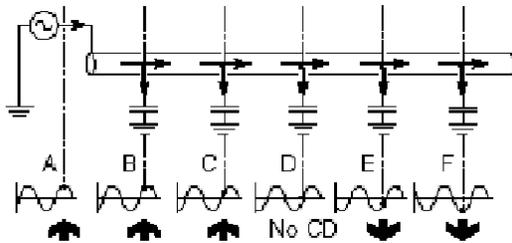

Figure 10.2: CD reset
Figure 10.2 illustrates a buried line with significant capacitance to ground. It illustrates the gradual phase-shift that occurs along the line. The diagram shows a reference point on each waveform. At first, the reference point occurs right on the Peak of a positive half cycle (A). It gradually moves towards the zero crossing point (D) and ends up on the Peak of a negative half cycle (F). The direction has shifted from forwards to backwards. At the intermediate point (D) the current flow cannot be determined. At this point the CD arrows on the RD5100H2O+ locator will flash on and off. In the example shown in the illustration, by returning to (C) which is the last point at which a CD reading was achieved, and performing a CD reset, the response at (C) will be equivalent to that of (A).